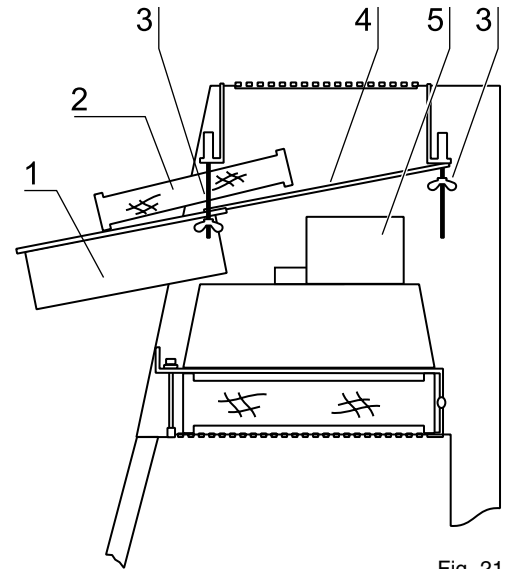

Fig. 21
**Fig. 21:** The exhaust filter [2] is located on a frame [4] above the downflow plenum. The housing of the exhaust plenum [1] is supported to the left and right side of the frame by two guide rails and can be removed from the device plenum chamber by pulling it forward.
3. The exhaust blower is secured with three tabs and two screws to the exhaust plenum housing (see Fig. 21). Remove the two screws, disconnect the exhaust blower [5] from the exhaust plenum and place it onto the downflow plenum.